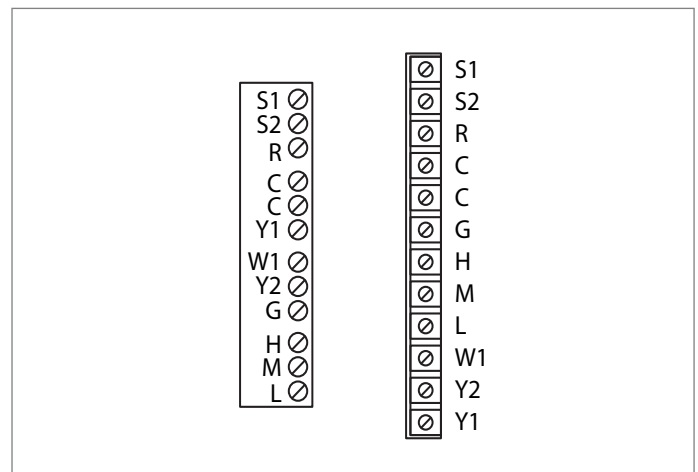

Figure 21 – FCRB screw terminals (left) vs FRBii screw terminals (right)
See Figure 21.
- a. Take any wires removed from the FCRB in Step 7 and install them into the screw terminals of the FRBii. The FCRB and FRBii screw terminals have identical names and wires removed from the FCRB should go to the corresponding terminal on the FRBii. (**NOTE:** Order of screw terminals is different; see Figure 21.)